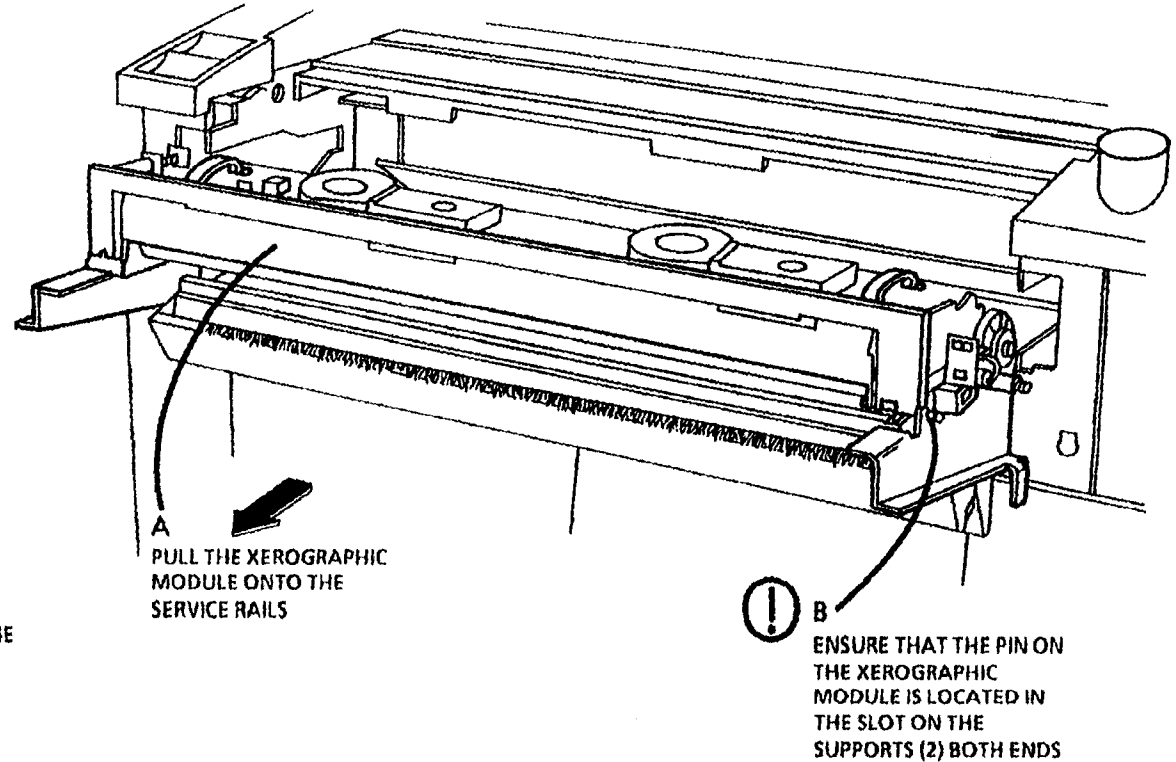

Figure 23. Remove the Xerographic Module
24. (Figure 23): Remove the Xerographic Module.